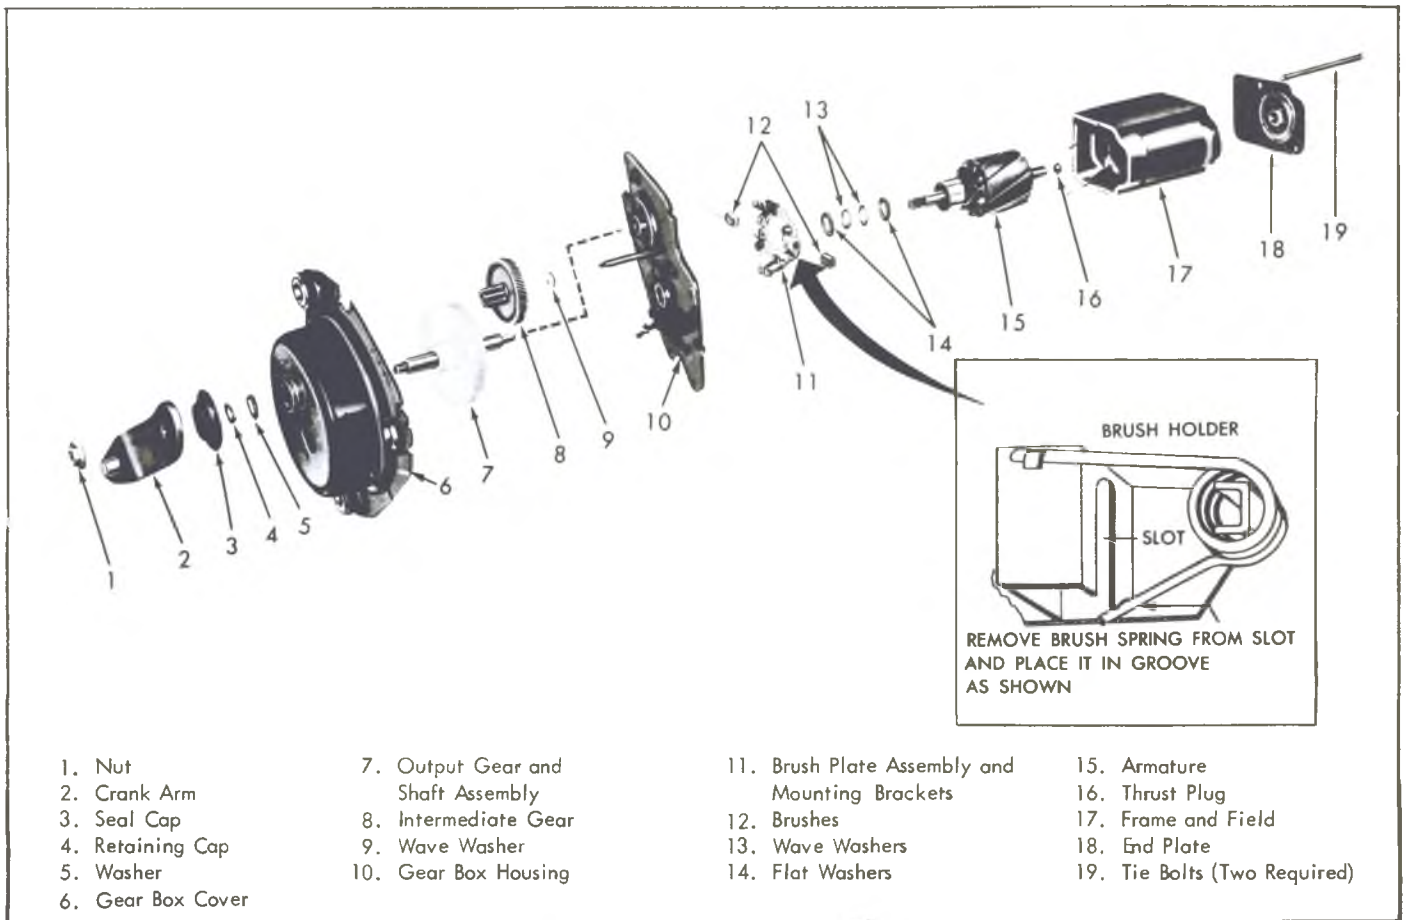

Fig. 40--Wiper Motor and Gear Box Assembly
### Disassembly (Fig. 40)
3. Remove brush spring tension (fig. 40), slide armature and end plate from motor frame. Pull end plate from armature.
Refer to Figure 40 for exploded view of motor and gear train.